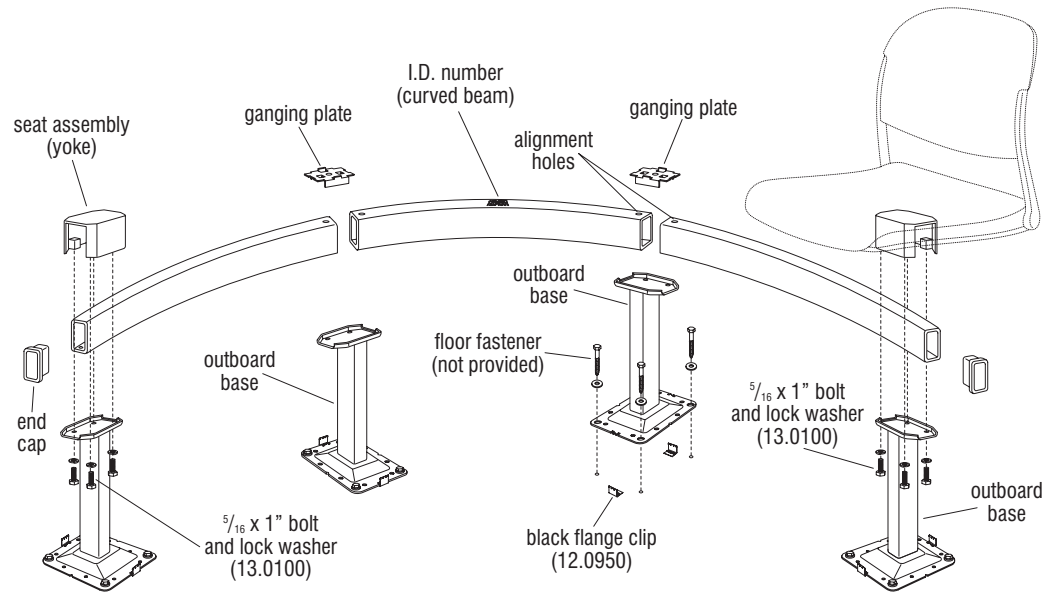

Figure 1
3. Mount base flanges to floor with appropriate fasteners, referencing "Floor Anchor Specifications" details on page 2. Center the black flange clips (12.0950) under both 6" sides of base flange, with the barbs up. Insert the locating tabs of the flange so that they are tight into the base flange notches. After all bases are positioned and adjusted with shims, securely tighten base flanges to the floor (Figure 1). Do not install plastic flange covers until step 35, page 14.
7. The "Base & Beam, Basic Installation" instructions on page 4 (Figure 1), outlined installation of bases and beams per the space-planning layout. Page 11 outlines riser mount base installation, as well as joining of beams under seats. At this time, follow "Seats to Beam Installation" instructions on page 12 to assemble the various seat models to beam locations, per the space-planning layout. In the "Power & USB Module Installation" instructions to follow, seats are not shown installed to allow for more clarity to install the power and USB module option.